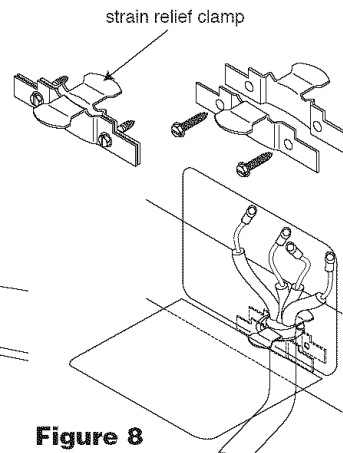

Figure 8
- 1 Follow the power supply kit manufacturer's Installation Instructions supplied with the strain relief clamp and install. See Figure 8.
- 5 Make sure all connections are tightened securely and replace the rear access cover. See Figure 8.